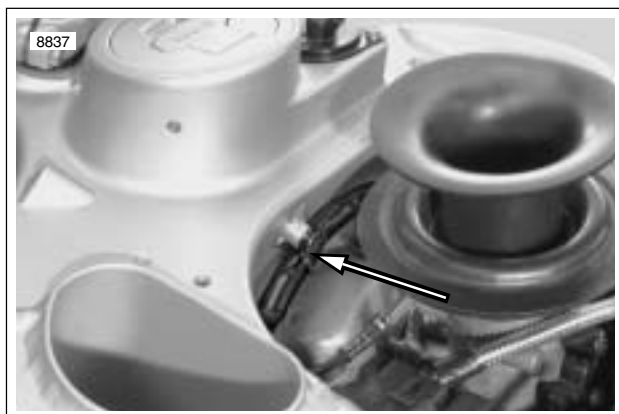

Figure 7-84. Wire Harness Clip
6. See Figure 7-84. Install clamp over portion of harness that leads to engine connectors. Install clamp as shown using **new** plastic tree fastener.